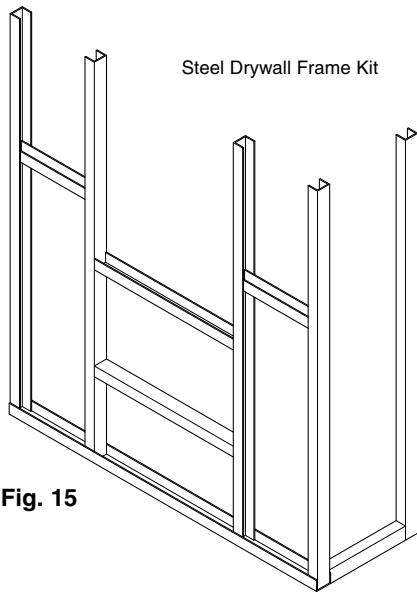

Fig. 15
1. Construct a false chimney breast using a suitable non-combustible steel frame construction kit (Fig. 15).
2. Ensure that there are two vertical steel battens placed to allow the flange of the fire box to be screwed to them (Fig. 15).
3. Fix a horizontal batten at the desired height for the fire box to sit on. Fix the second horizontal batten high enough so that the firebox can slide into the opening (Fig. 15).